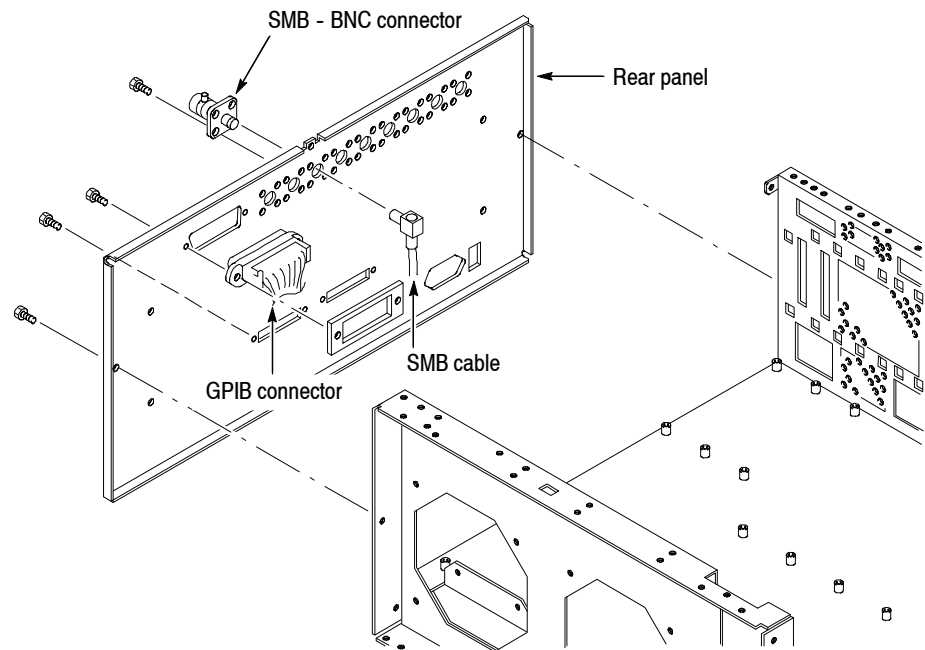

Figure 6-33: Rear panel removal
3. *Remove the SMB-BNC connector:* See Figure 6-33.
- 4. *Remove the GPIB connector:*** See Figure 6-33.